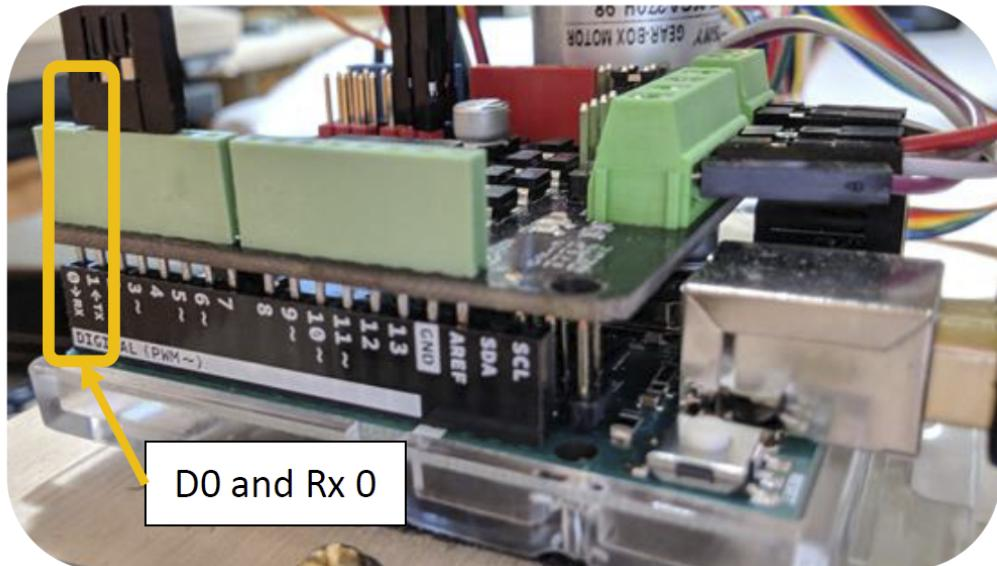

Figure 6: Motor controller shield installed on the Arduino. “Digital pin 0” on the Arduino is to be aligned with “Rx 0” on the motor controller board.
- a. Install the motor controller onto the Arduino as shown in Figure 6.